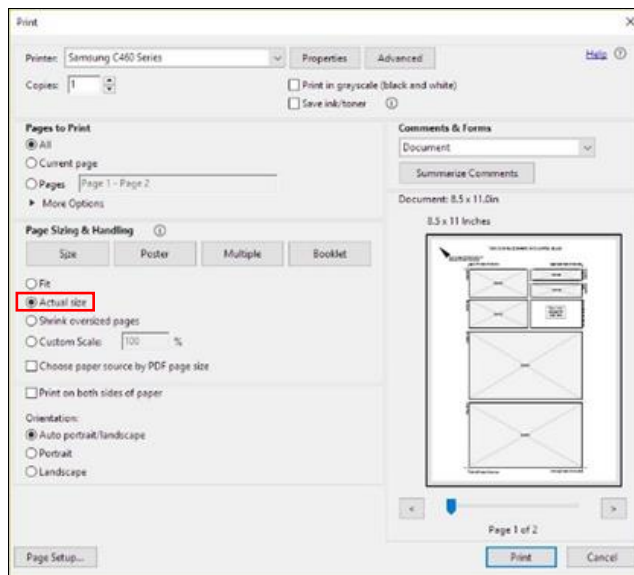

Figure 1. Print settings window.
1. Print the scanning frame on a printer that allows double-sided printing. Be sure to select *Actual size* in the print settings window (Fig. 1).